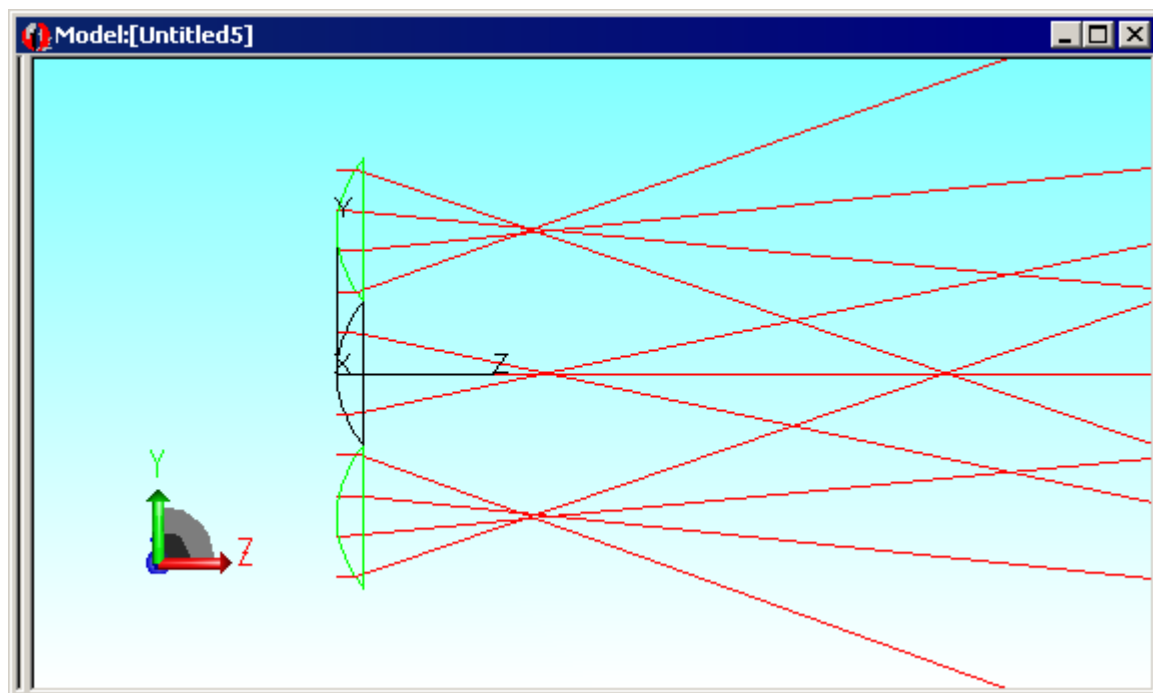

FIGURE 9.42 - Raytrace of linear lens array
11. Trace another grid raytrace. See Figure 9.42.